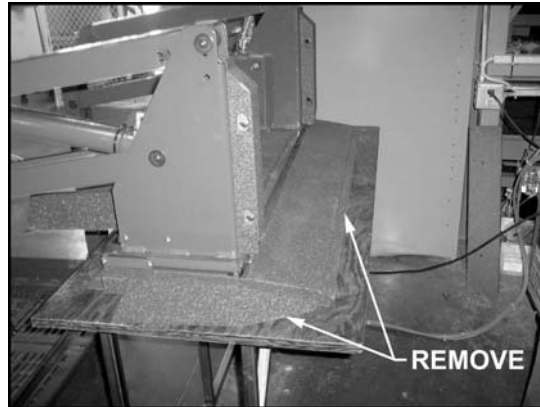

FIGURE 3-4
1. Refer to **Figure 3-4**. Deploy platform to ground level. Remove short side ramp and longer rear ramp from around the baseplate to gain access to lower tower components.